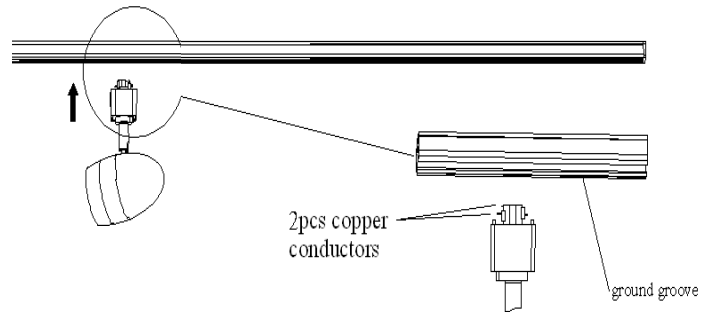

Fig. 5
**INSTALL AND REMOVAL OF TRACK HEAD (REFER TO Fig. 5)**